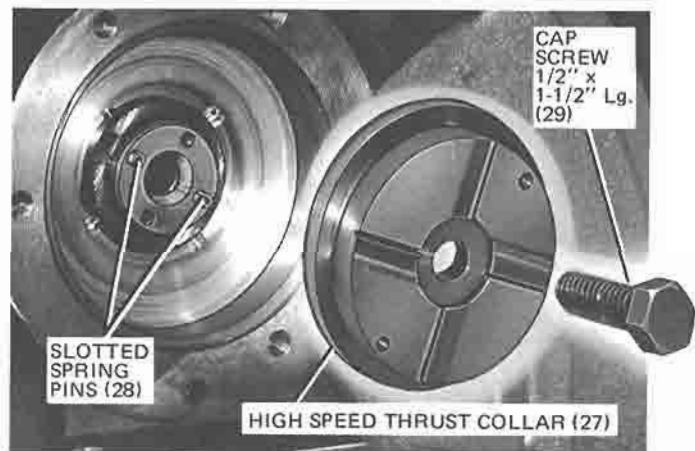

FIG. 34 — ASSEMBLING REAR HIGH SPEED THRUST COLLAR
2. Place two slotted pins (28) in the end of the high speed pin gear shaft. Then insert the thrust collar (22) into its cavity over the end of shaft. Line up two holes thrust collar with the pins and press into place. (See Fig. 34.) Insert the hex hd. cap screw 1/2 x 1-1/4 lg. (29). Screw into place and tighten. Torque per Table 4.